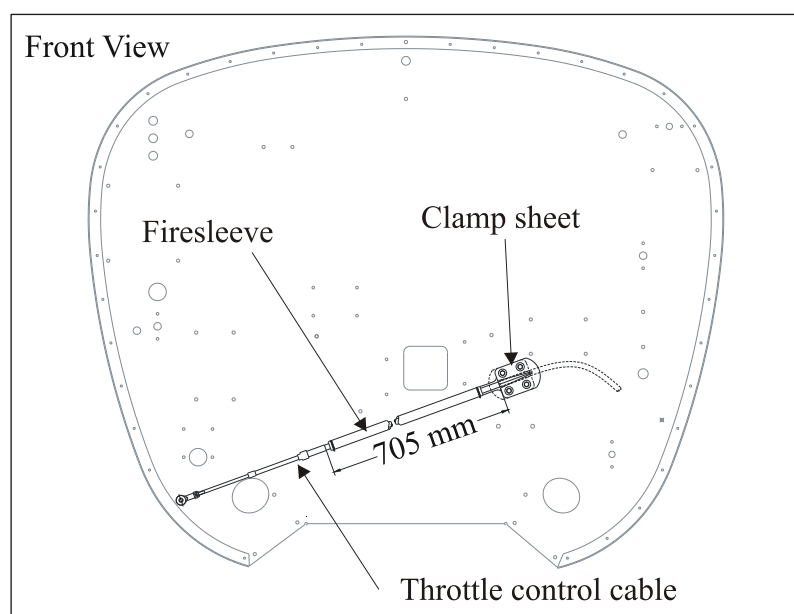

Figure 2 *Firesleeve Length*
- 3 Ensure distance between clamp sheet and clamp block is 705 mm (refer to Figure 2).